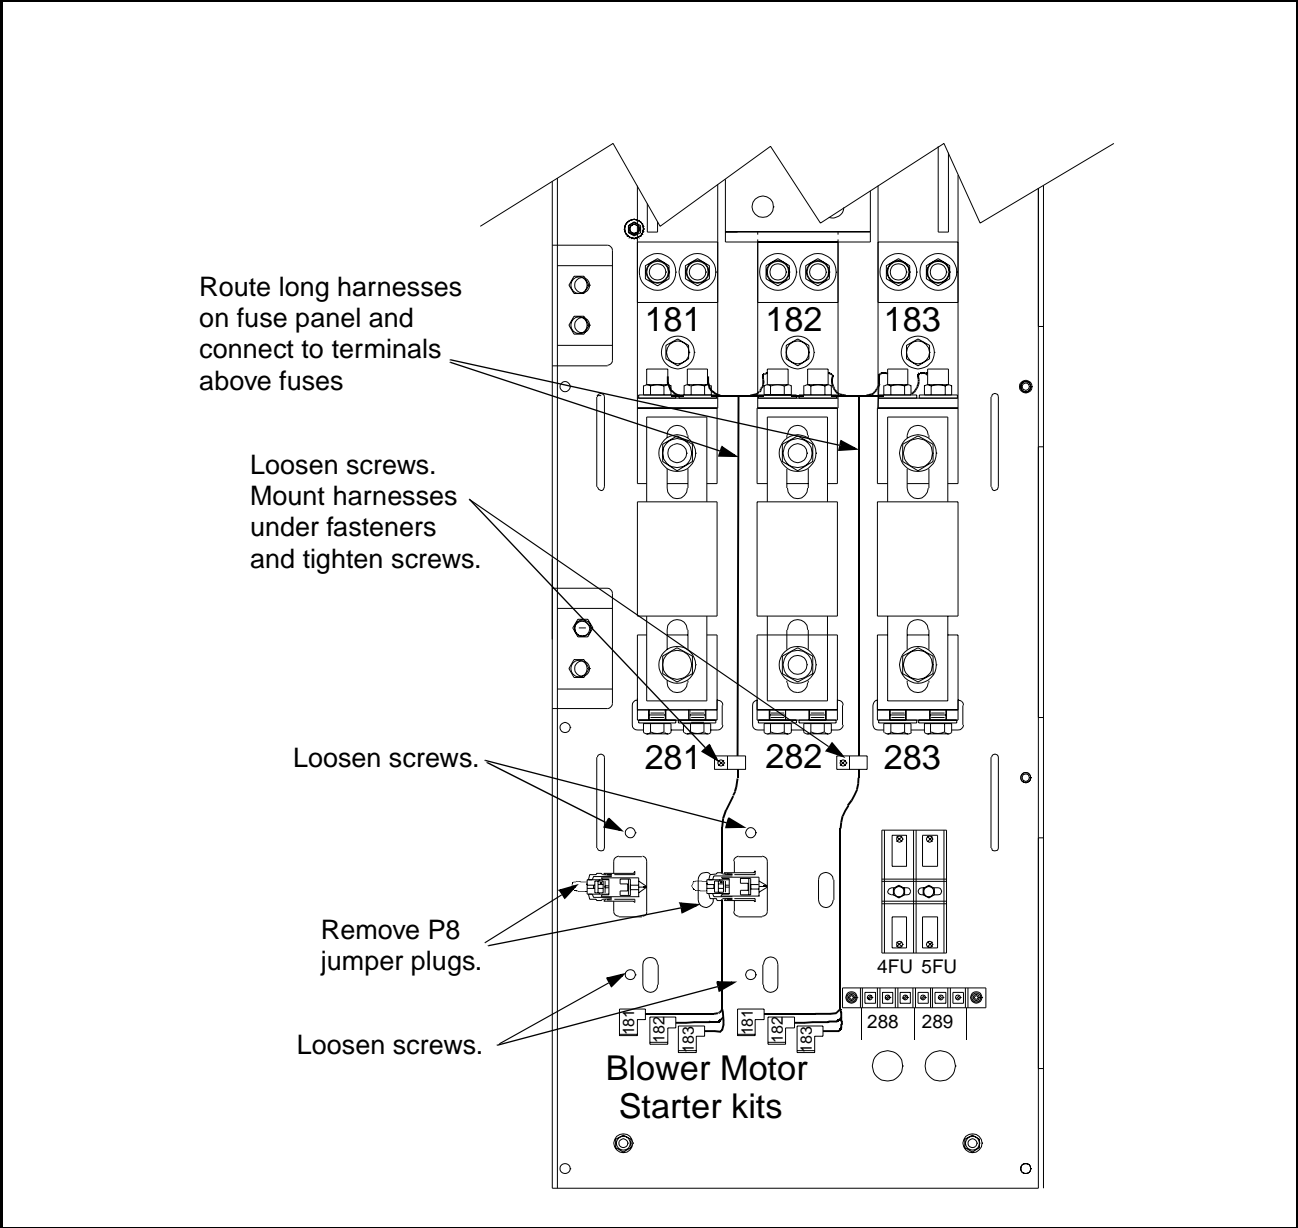

Figure 6 – Mounting the Starters on the Drive Line-Fuse Panel (400 HP to 600 HP @ 460 VAC)
- d. Secure the wire harness to the drive chassis with the wire ties as illustrated in figure 6.